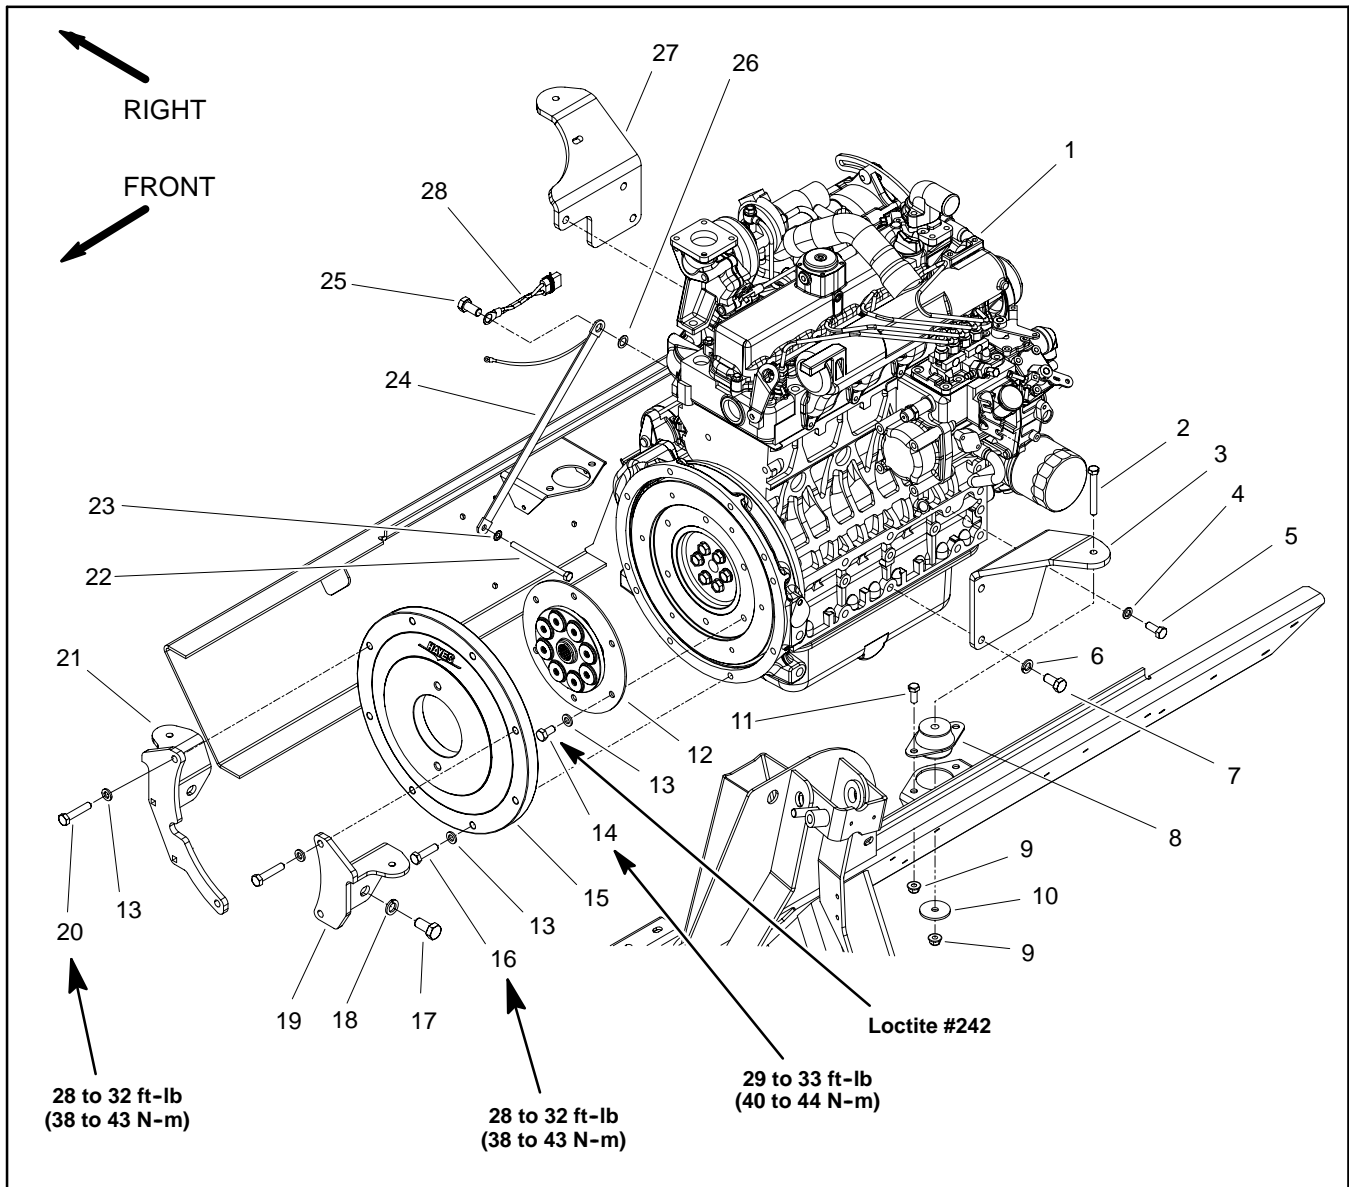

Figure 10
## Engine Removal (Fig. 10)
19. If necessary, remove engine mounts from the engine using Figure 10 as a guide.
### Engine Installation (Fig. 10)
2. If removed, install engine mounts to the engine using Figure 10 as a guide.